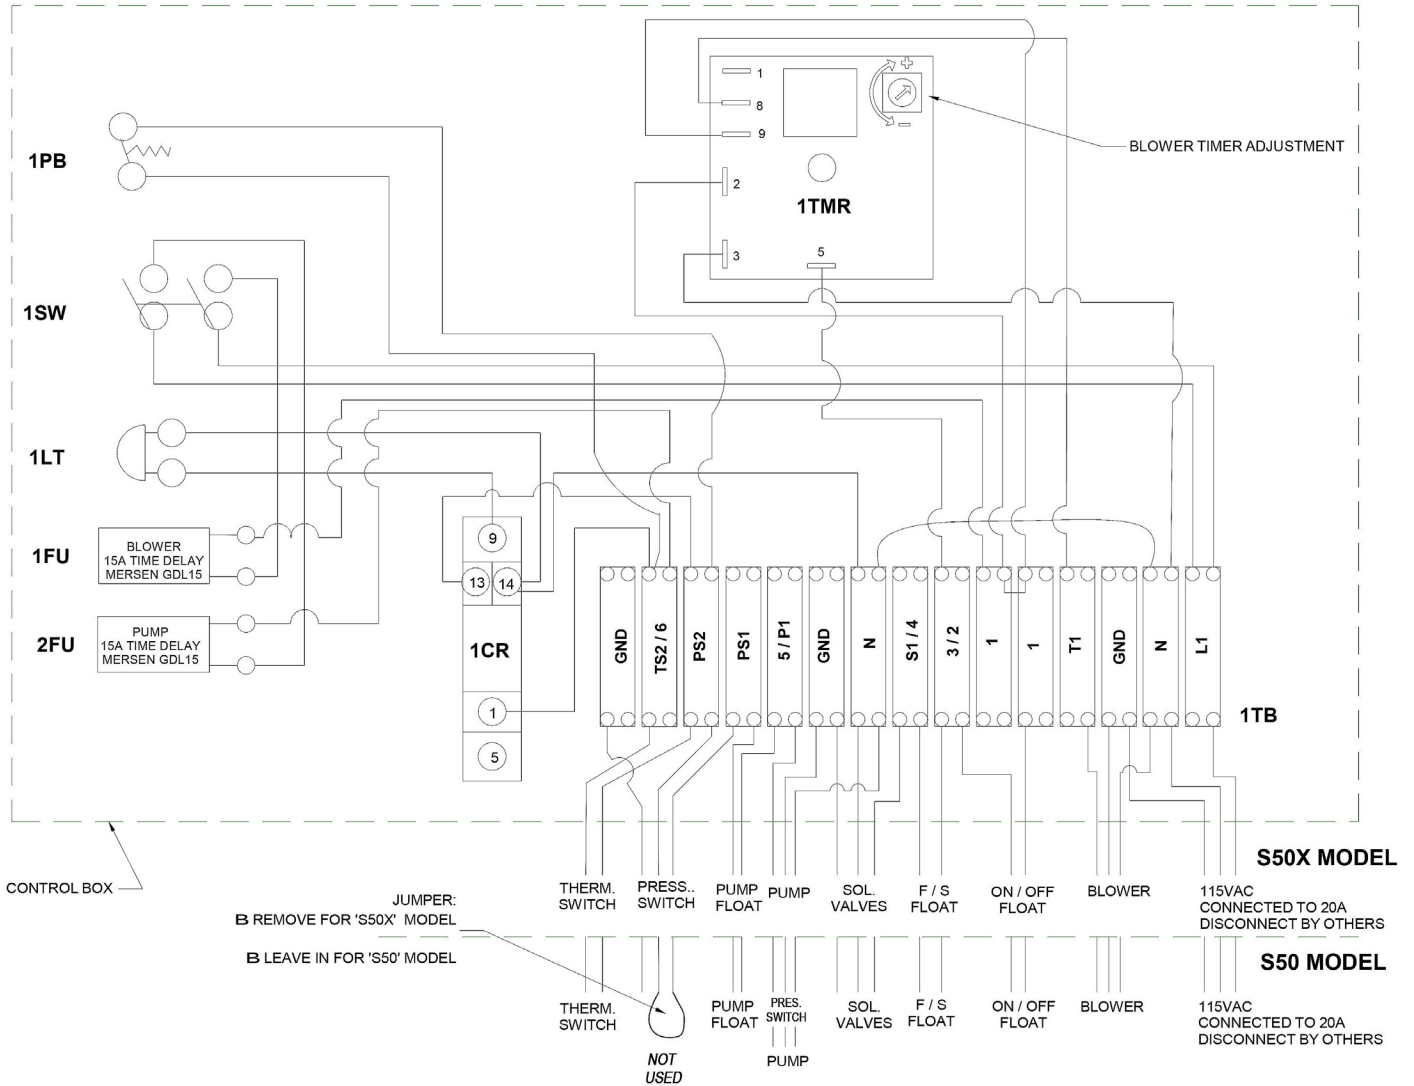

Figure 10
3. On 433-S50X units only the installer may need to disconnect the Armored Cable supplied in order to install the Pressure Switch. The Armored Cable may require trimming to the desired length before reconnecting. Connect per the wiring diagram Figure 10, Page 15.